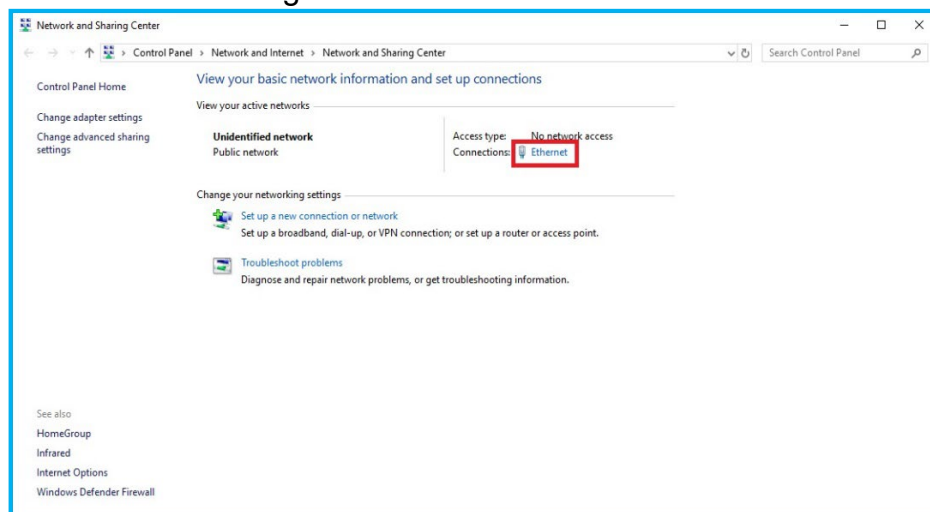

Figure 5-5 Configure “Ethernet”
d) Click the “Ethernet” in Fig 5-5.